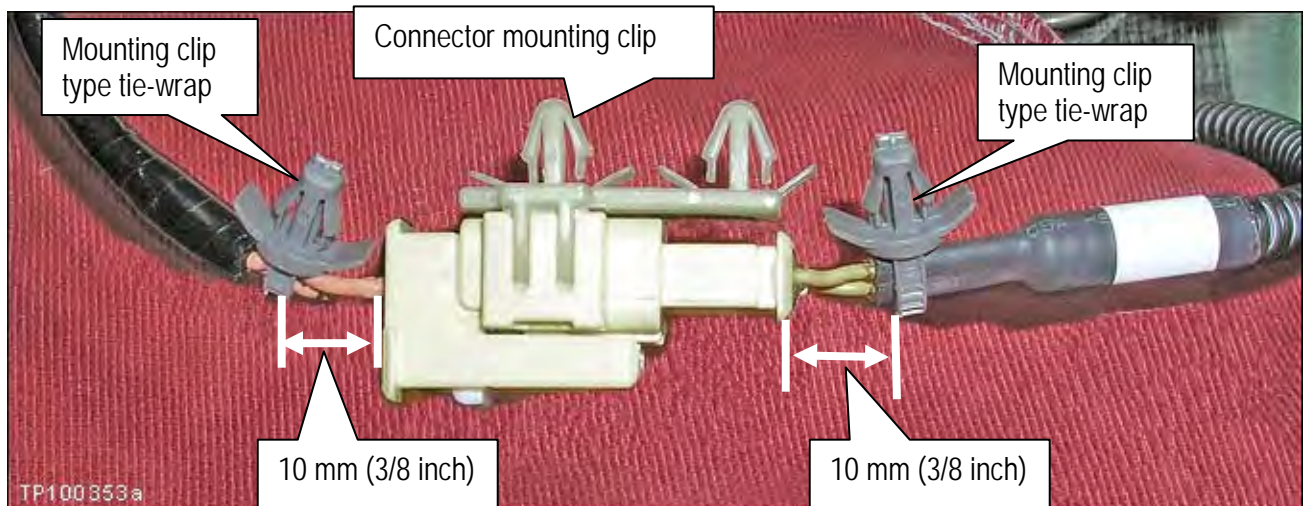

Figure 3d
5. Reinstall the connector mounting clip onto the new SAB connector (see Figure 3d).
6. Install 2 new "mounting clip type" tie-wraps as shown in Figure 3d.